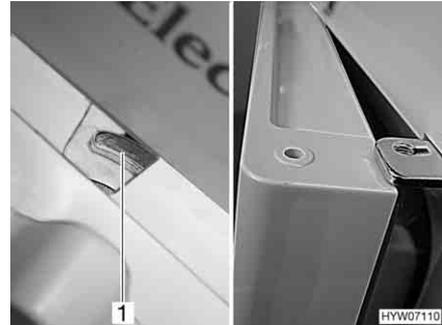

Fig. 214 Refrigerator door/freezer compartment door in ventilation position (Dometic 7 series with separate freezer compartment)
- Push the lock completely to the right. The door latch (Fig. 214,1) keeps the refrigerator door/freezer compartment door in a fixed position. The refrigerator door/freezer compartment door will then stay slightly open (Fig. 214).